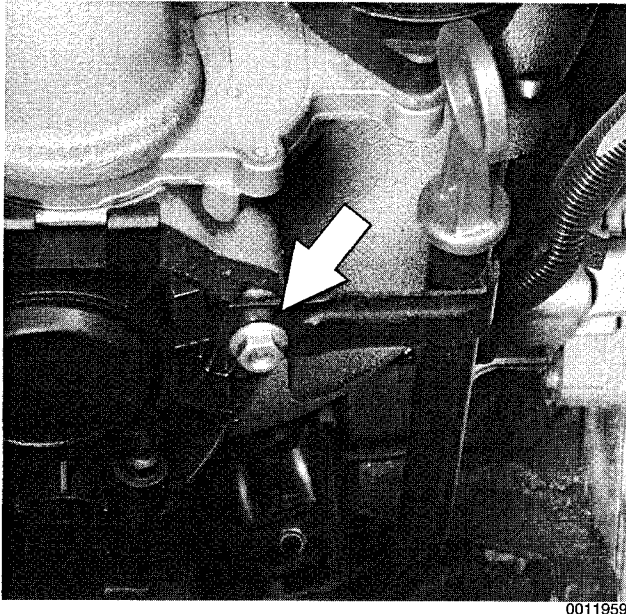

Fig. 2. Oil dipstick guide tube mounting nut (arrow) on M44 engine. Use new O-ring at base of tube during installation.
5. Remove oil dipstick guide tube mounting nut and pull guide tube from oil pan. See Fig. 2.